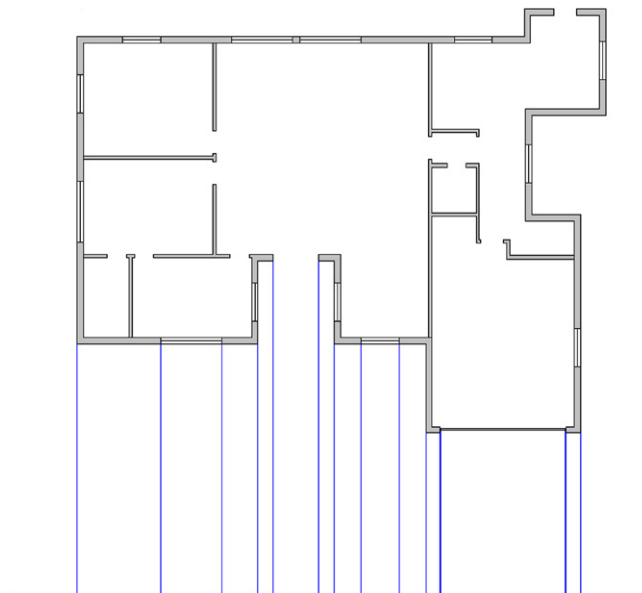

FIGURE 18.22
Step 1. You need no new layers for this. Open up the floor plan, freeze all layers except the walls and windows, and draw guidelines straight down from each bend or feature in the wall (such as a door or window), as seen in Figure 18.22.